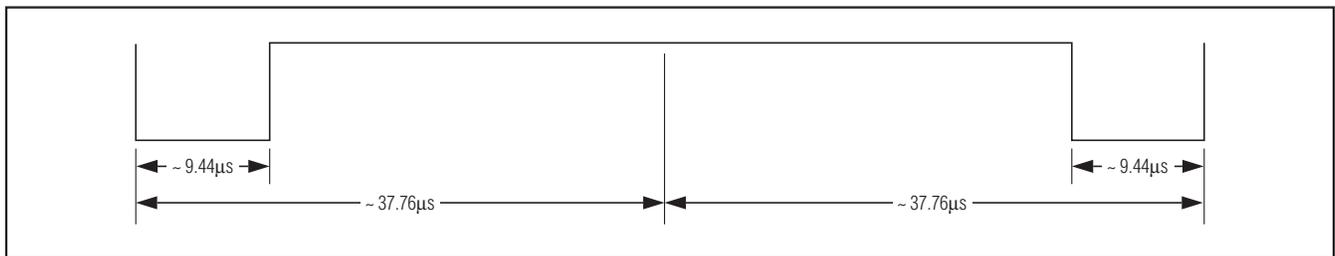

Figure 9. Downlink SOF for "1 Out of 256" Coding (Carrier Not Shown)
75.52 μ s conveys the value of the 2 bits. A byte is transmitted as a concatenation of four 2-bit transmissions, with the least significant 2 bits of the byte being transmitted first. The transmission of the SOF pattern takes the same time as transmitting 2 bits in Scheme B. The SOF pattern has two modulation notches, making it distinct from any 2-bit pattern. The position of the second notch tells whether the frame uses the “1 out of 256” or “1 out of 4” coding scheme (Figures 9 and 10, respectively). The transmission of the EOF pattern takes 37.76 μ s; the EOF is the same for both coding schemes and has one modulation notch (Figure 11).